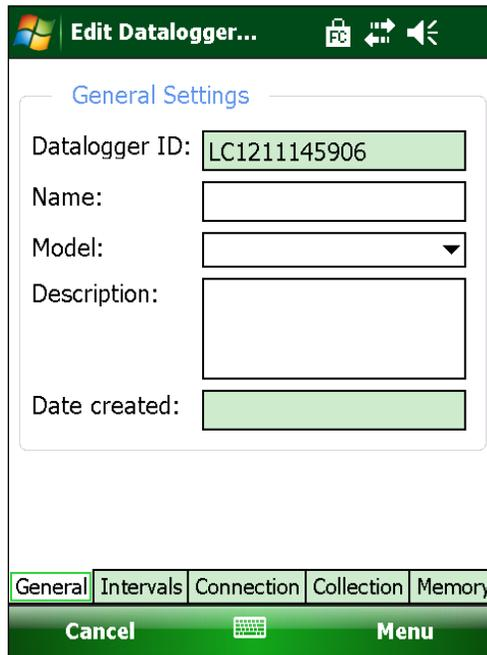

Figure 49 - Edit Datalogger Settings
- LogView Mobile will display the datalogger settings dialog (see Figure 49). You will need to specify the datalogger model and name as a minimum. See section 8.3 for more information on all of the “DataLogger Settings”.